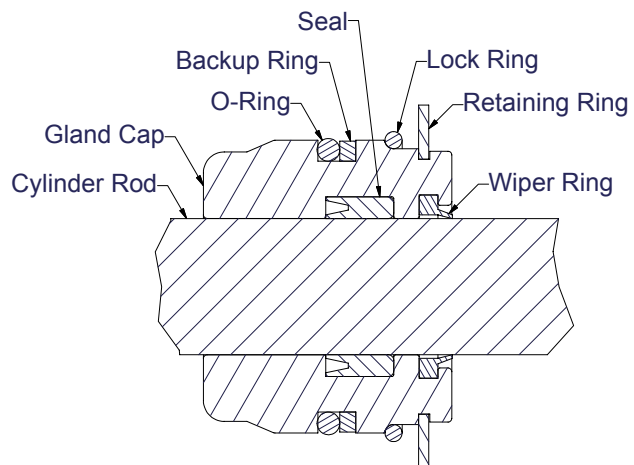

Figure 1-6, Gland Cap Seal
3. Install the seals and wipers in the gland cap. Note the direction of the seals. The cupped side or O-Ring side of the seal should be facing the piston. (Figure 1-6)